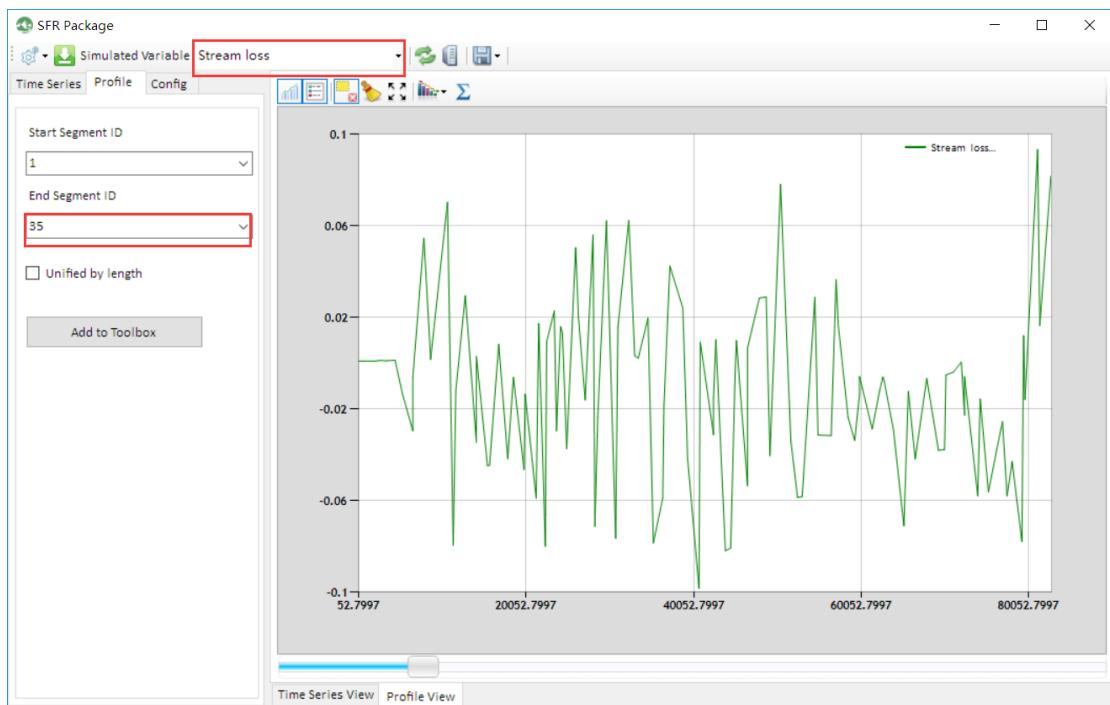

Figure 8-7. Spatial variation of stream-groundwater interaction flux along the main stream of the Miho River.
- 4) Select “Stream loss” in the simulated variables dropdown list and select “35” in the End Segment ID dropdown list to view spatial variation of stream-aquifer interaction flux. The positive values indicate stream leakage to groundwater and negative values indicate groundwater discharge to streams (Figure 8-7).